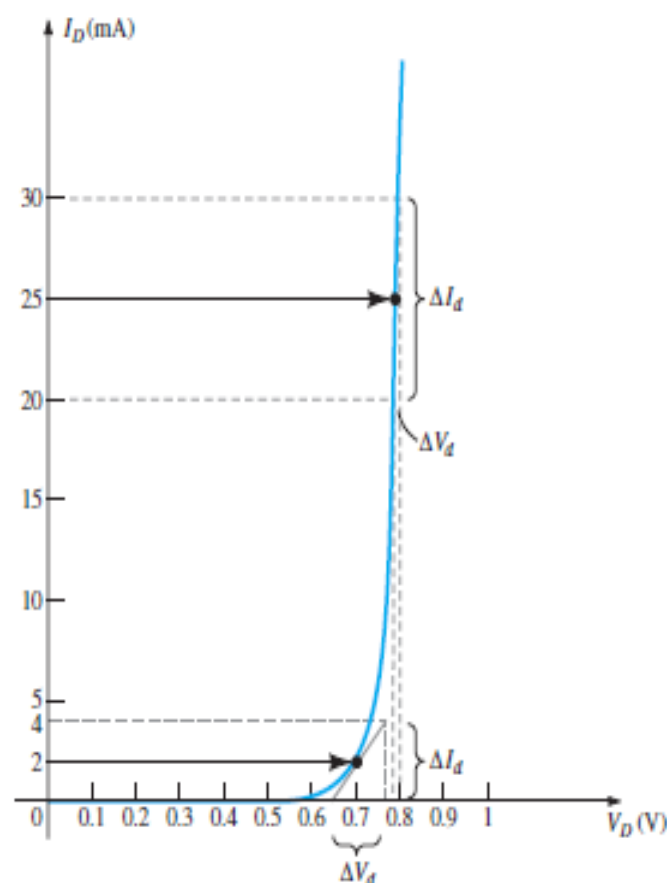

FIG. 1.27
EXAMPLE 1.4 For the characteristics of Fig. 1.27:
- For $I_D = 2$ mA, the tangent line at $I_D = 2$ mA was drawn as shown in Fig. 1.27 and a swing of 2 mA above and below the specified diode current was chosen. At $I_D = 4$ mA, $V_D = 0.76$ V, and at $I_D = 0$ mA, $V_D = 0.65$ V. The resulting changes in current and voltage are, respectively,
- For $I_D = 25$ mA, the tangent line at $I_D = 25$ mA was drawn as shown in Fig. 1.27 and a swing of 5 mA above and below the specified diode current was chosen. At $I_D = 30$ mA, $V_D = 0.8$ V, and at $I_D = 20$ mA, $V_D = 0.78$ V. The resulting changes in current and voltage are, respectively,